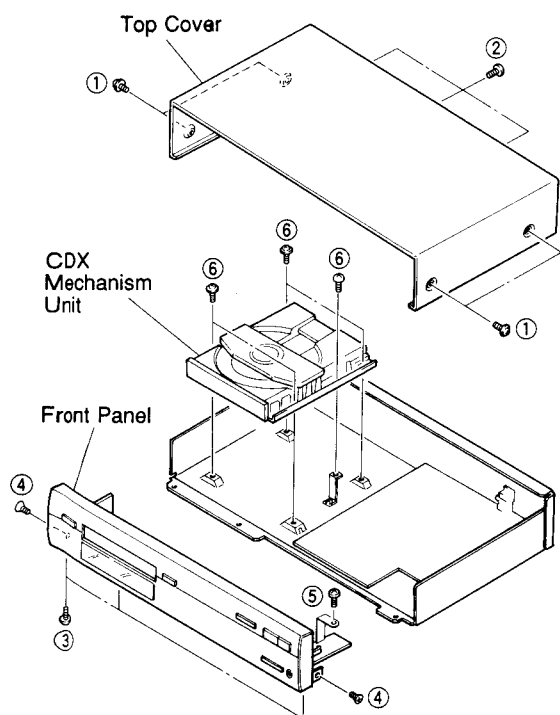

Fig. 1
- Remove 4 screws (①) and 3 screws (②) in Fig. 1.
- Remove 3 screws (③), 2 screws (④) and 1 screw (⑤) in Fig. 1.
- Remove 5 screws (⑥) in Fig. 1.